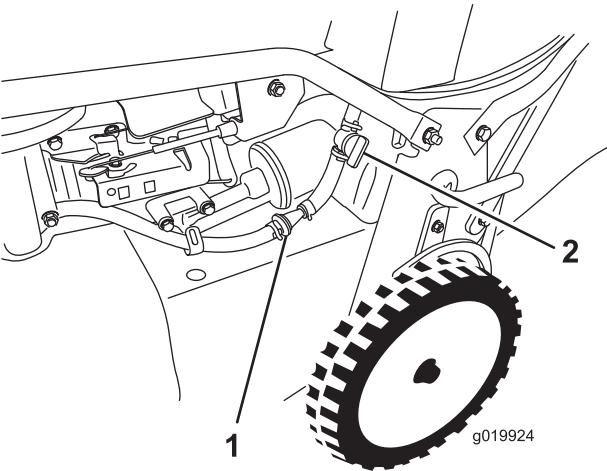

Figure 27
3. Close the fuel shutoff valve (Figure 27).